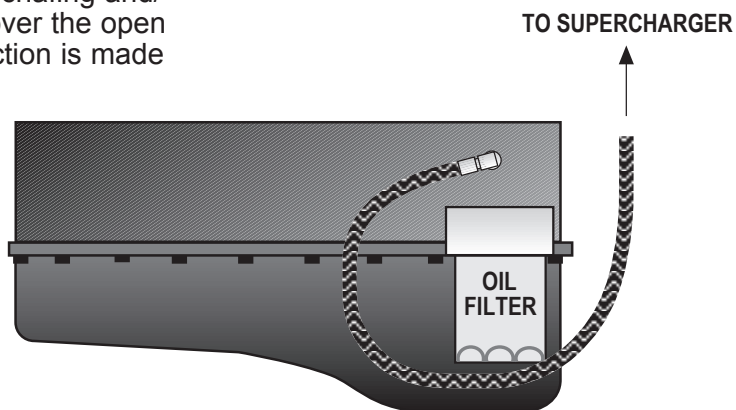

Fig. 2-a
- C. Connect the supplied feed line to the flare fitting and route it up to the front of the driver side cylinder head. Secure the hose with tie-wraps away from exhaust heat, chafing and/or sharp objects. Temporarily cover the open end from debris until the connection is made to the supercharger. (See Fig. 2-a.)